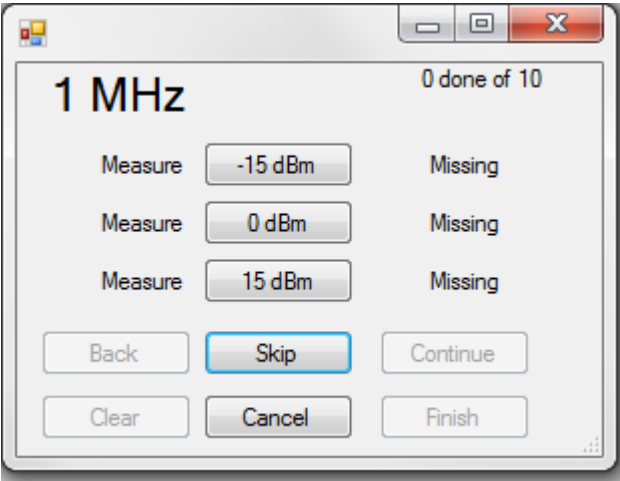

Figure 3: Calibration
9. User calibration can be performed to improve accuracy. Click "Calibrate" to calibrate the device across frequency. Linear interpolation is used to calculate the slope and intercept for frequencies between the calibration points. The calibration coefficients are stored in the GUI that can be re-used later. See figure 3.